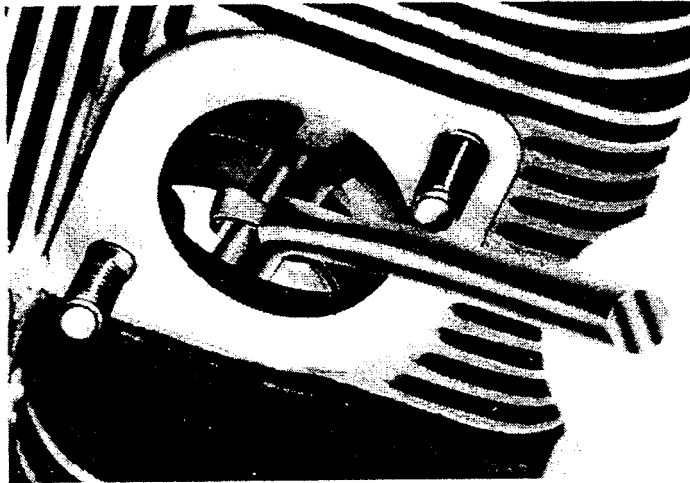

Figure 1. View Through Exhaust Port Showing Mechanical Fingers Holding Valve Stem
7. Remove the nylon rope or bleed off the air pressure and insert light through the upper spark plug hole. Then start pushing the valve from its guide. Before the valve stem is free from the guide, secure it from falling into the cylinder with mechanical pickup fingers, working through the spark plug holes and/or exhaust ports as shown in Figure 1.